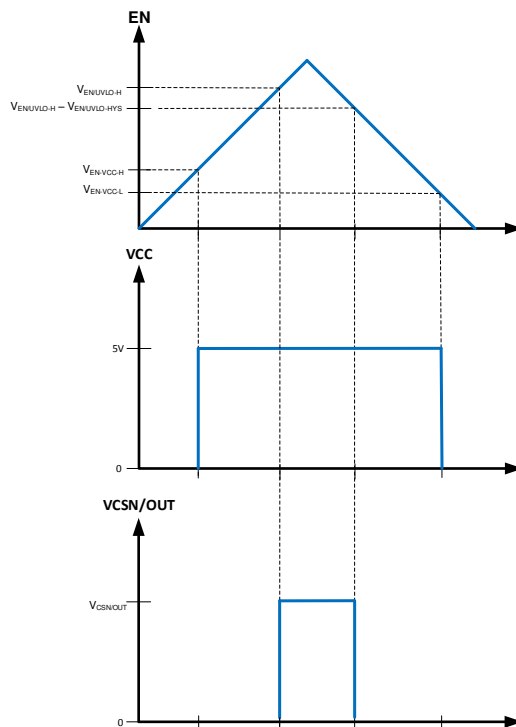

**Figure 10-1. SW Node and Inductor Current Waveforms in Continuous Conduction Mode (CCM)**
The following operating description of the TPS25846-Q1 will refer to the Functional Block Diagram and the waveforms in Figure 10-1. TPS25846-Q1 is a step-down synchronous buck regulator with integrated high-side (HS) and low-side (LS) switches (synchronous rectifier). The TPS25846-Q1 supplies a regulated output voltage by turning on the HS and LS NMOS switches with controlled duty cycle. During high-side switch ON time, the SW pin voltage swings up to approximately  $V_{IN}$ , and the inductor current  $i_L$  increase with linear slope  $(V_{IN} - V_{OUT}) / L$ . When the HS switch is turned off by the control logic, the LS switch is turned on after an anti-shoot-through dead time. Inductor current discharges through the LS switch with a slope of  $-V_{OUT} / L$ . The control parameter of a buck converter is defined as Duty Cycle  $D = t_{ON} / T_{SW}$ , where  $t_{ON}$  is the high-side switch ON time and  $T_{SW}$  is the switching period. The regulator control loop maintains a constant output voltage by adjusting the duty cycle  $D$ . In an ideal buck converter, where losses are ignored,  $D$  is proportional to the output voltage and inversely proportional to the input voltage:  $D = V_{OUT} / V_{IN}$ .